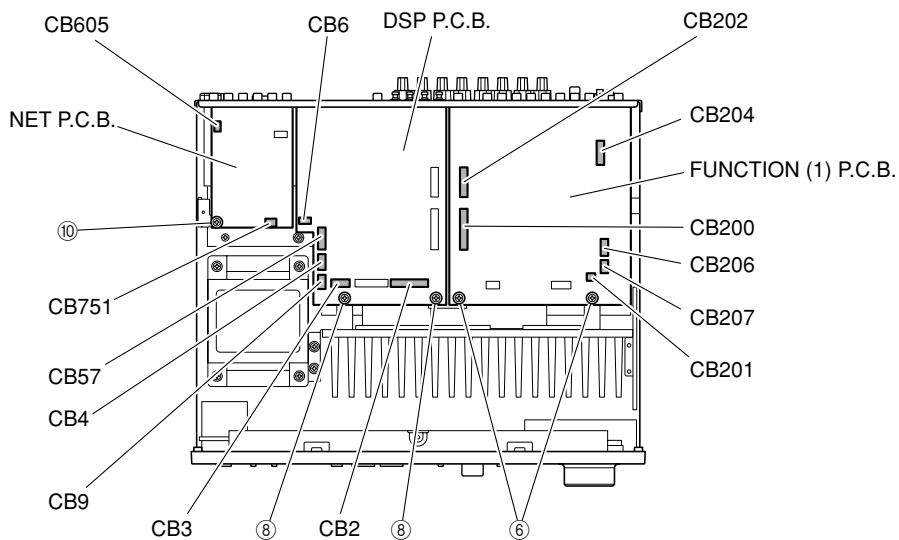

Fig. 2
**3. Removal of FUNCTION (1) P.C.B.**
- a. Remove 2 screws (⑥). (Fig. 2)
- c. Remove CB200-202, CB204, CB206, CB207 and CB751. (Fig. 2)
- d. Remove the FUNCTION (1) P.C.B.. (Fig. 2)
- a. Remove 2 screws (⑧). (Fig. 2)
- c. Remove CB2-4, CB6, CB9 and CB57. (Fig. 2)
- d. Remove the DSP P.C.B.. (Fig. 2)
- a. Remove 1 screw (⑩). (Fig. 2)
- c. Remove CB605. (Fig. 2)
- d. Remove the NET P.C.B.. (Fig. 2)